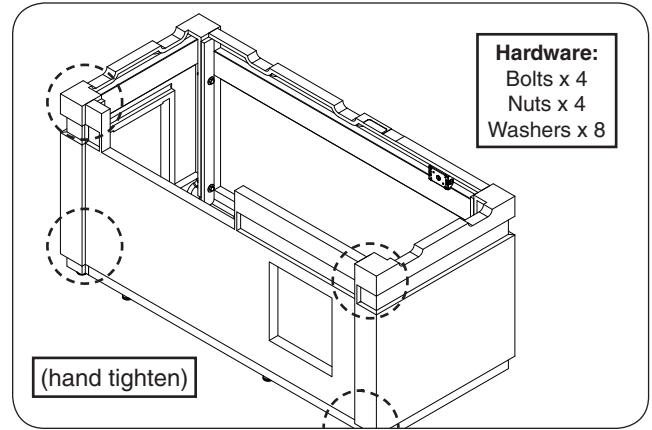

Fig. 8-1 Assemble front wall
5. Orient the front wall and repeat the hardware installation process (on left side only). See Fig. 8-1.